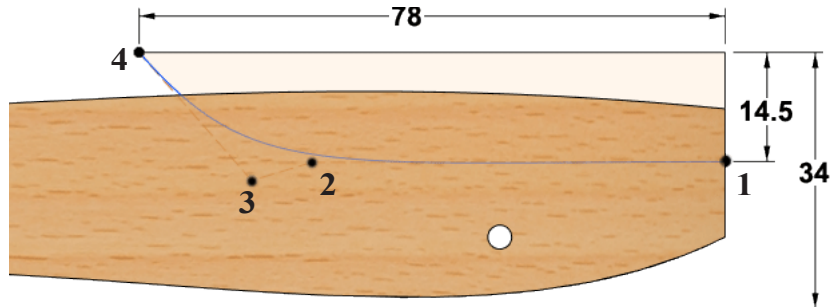

Fig. 28
Step 10. Sketch a **4 control point Spline** between endpoints of lines, **Fig. 28**. Press ENTER to end spline.